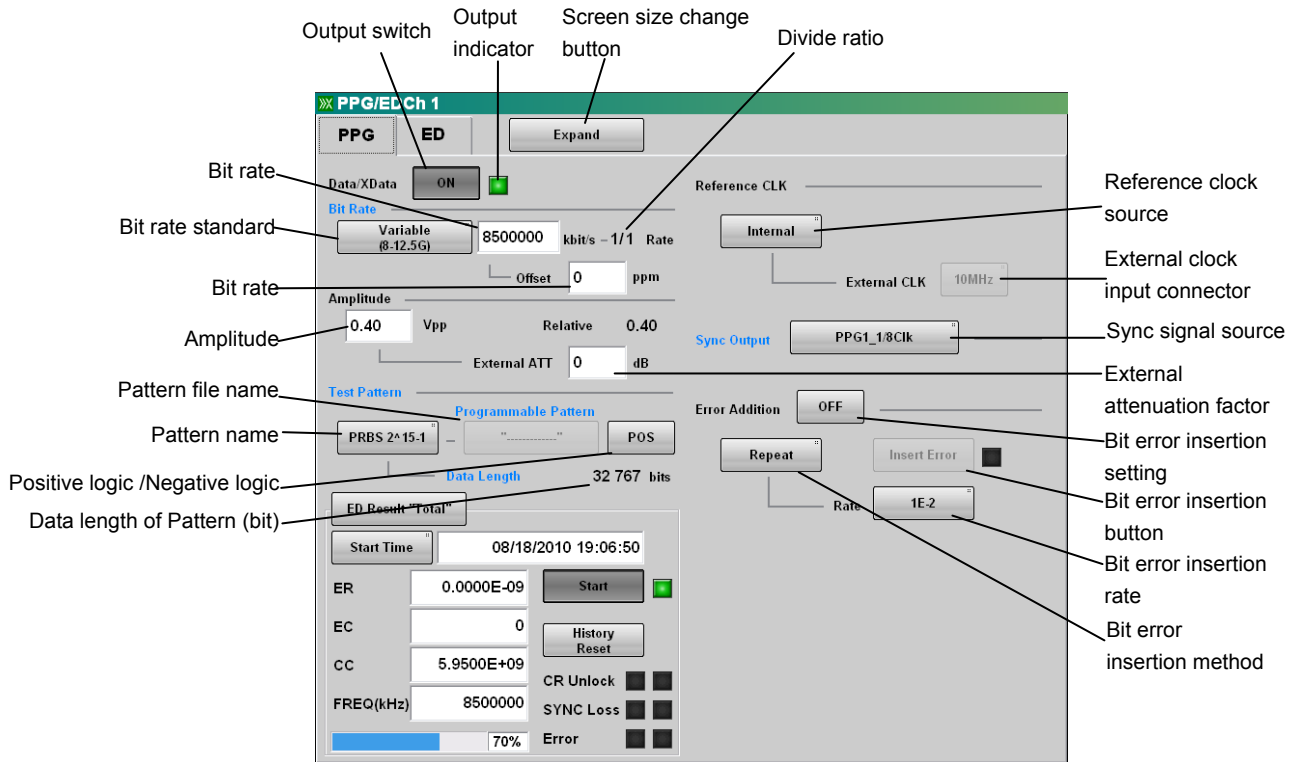

Figure 5.1-2 PPG Setting Panel (Details)
3. Touch [Main], and then Figure 5.1-2 is displayed.